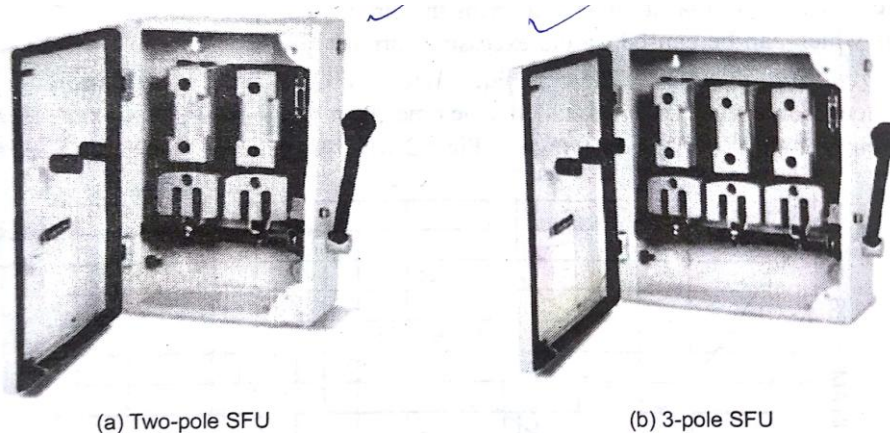

Fig.5.2: Switch fuse Unit (SFU)
5.2 SWITCH FUSE UNIT (SFU): Switch fuse unit comprises of various porcelain rewirable fuses or HRC (High Rupturing Capacity) complete with their conducting parts. The switch is fitted with sturdy side operating handle with quick break type mechanism as shown in fig.5.2.